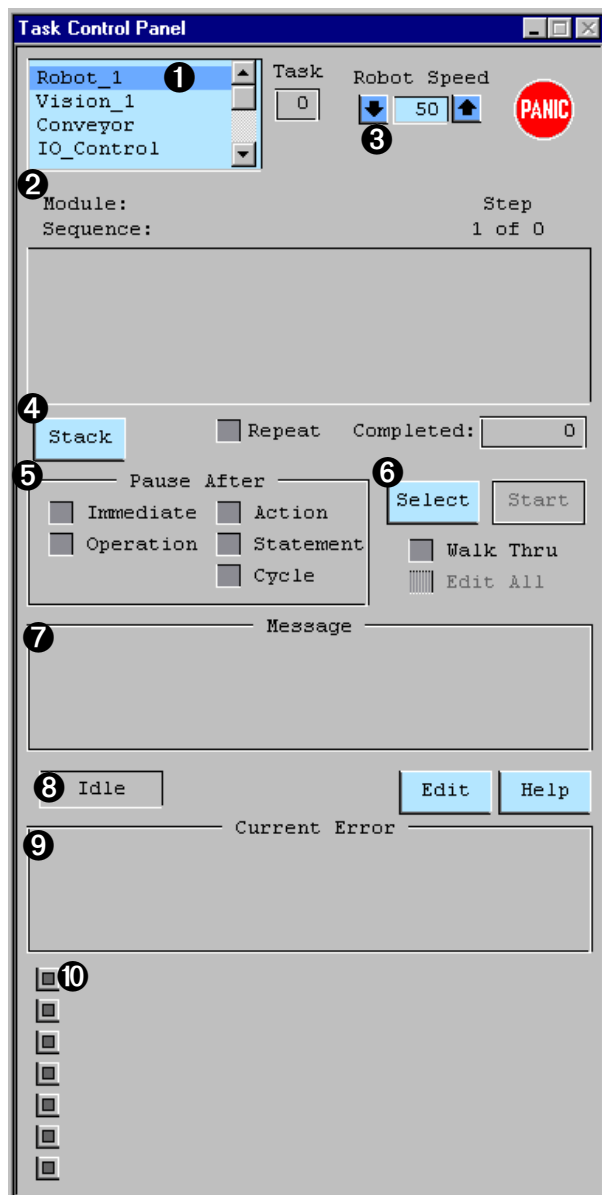

Figure 4-5
1. Select the task you want to start (item ② in Figure 4-5).